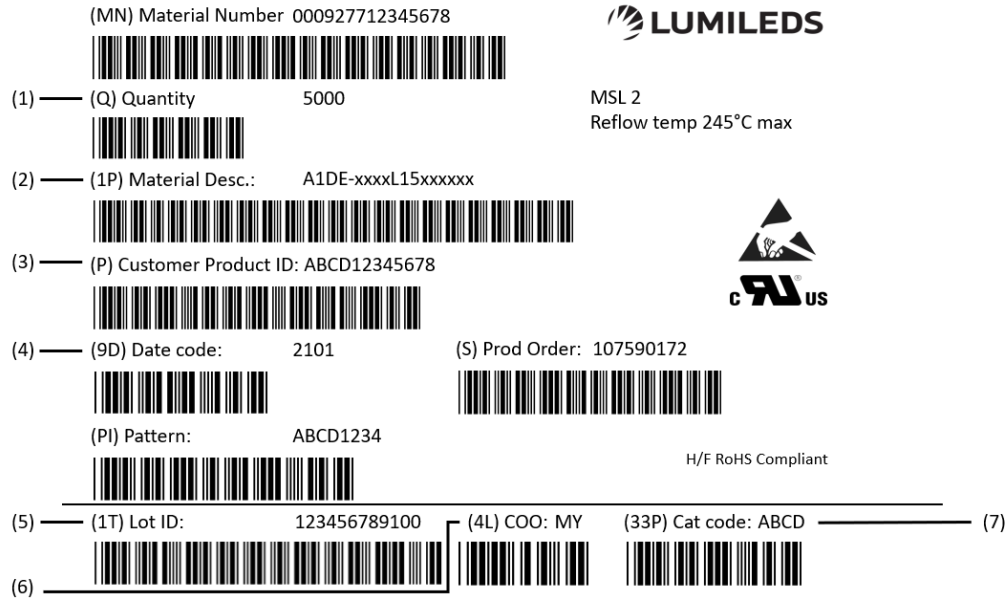

Figure 13. Example moisture barrier bag label
Notes for Figures 13:
1. Notes for Figure 13 – Moisture barrier bag & Reel label descriptions for customer use: